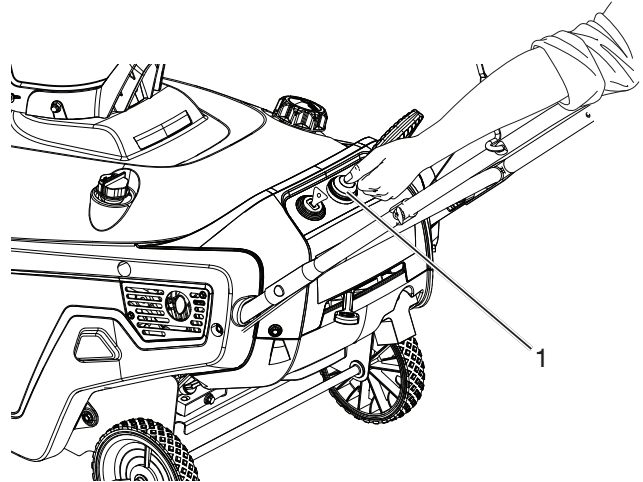

Figure 12
3. Firmly push in the primer 3 times with your thumb, holding the primer in for a second before releasing it each time (Figure 12).